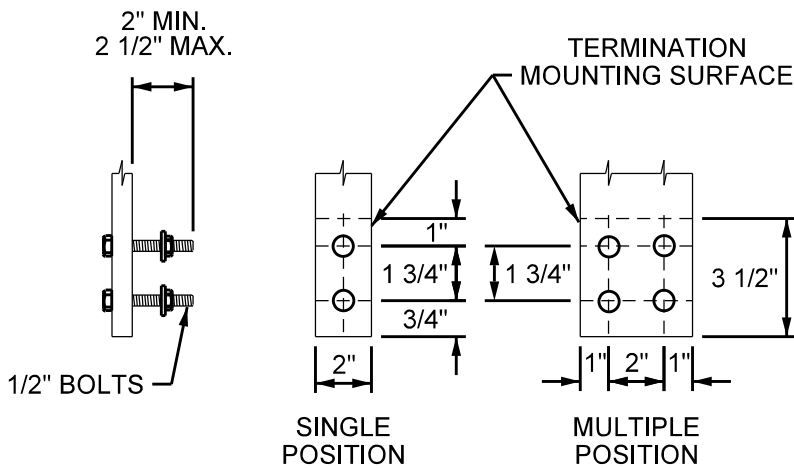

FIG. 1 TERMINATING BOLT AND DRILLING DETAIL OF TERMINATING FACILITIES
EXCEPTION: Edgewise terminating facilities may consist of 9/16" holes having the same spacing as specified for the 1/2" bolts in Note 1 and in Figure 1. The unobstructed working space shall be provided on both sides of the termination bus (see Figure 3).
4. In the terminal mounting area, which is defined as the area of the terminating facilities shown in Figure 1, a clear space (barrel of proximity) of 1 1/2" minimum is required around any terminating facility. This includes its bolts, bolt heads, any other bus, any other terminating facility or any grounded surface, except: